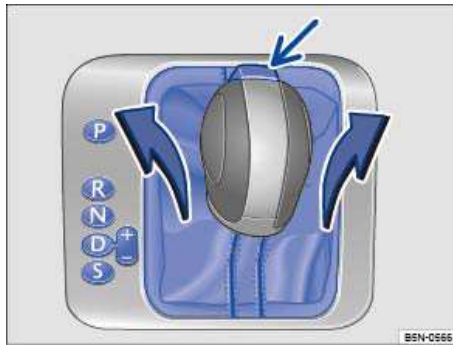

Fig. 186 Removing the selector gate cover.
- Pull upward on the cover around the selector lever sleeve ⇒ fig. 186.
- Press the release button ⇒ fig. 186 (arrow) in the selector lever handle and shift the selector lever to Neutral (N).